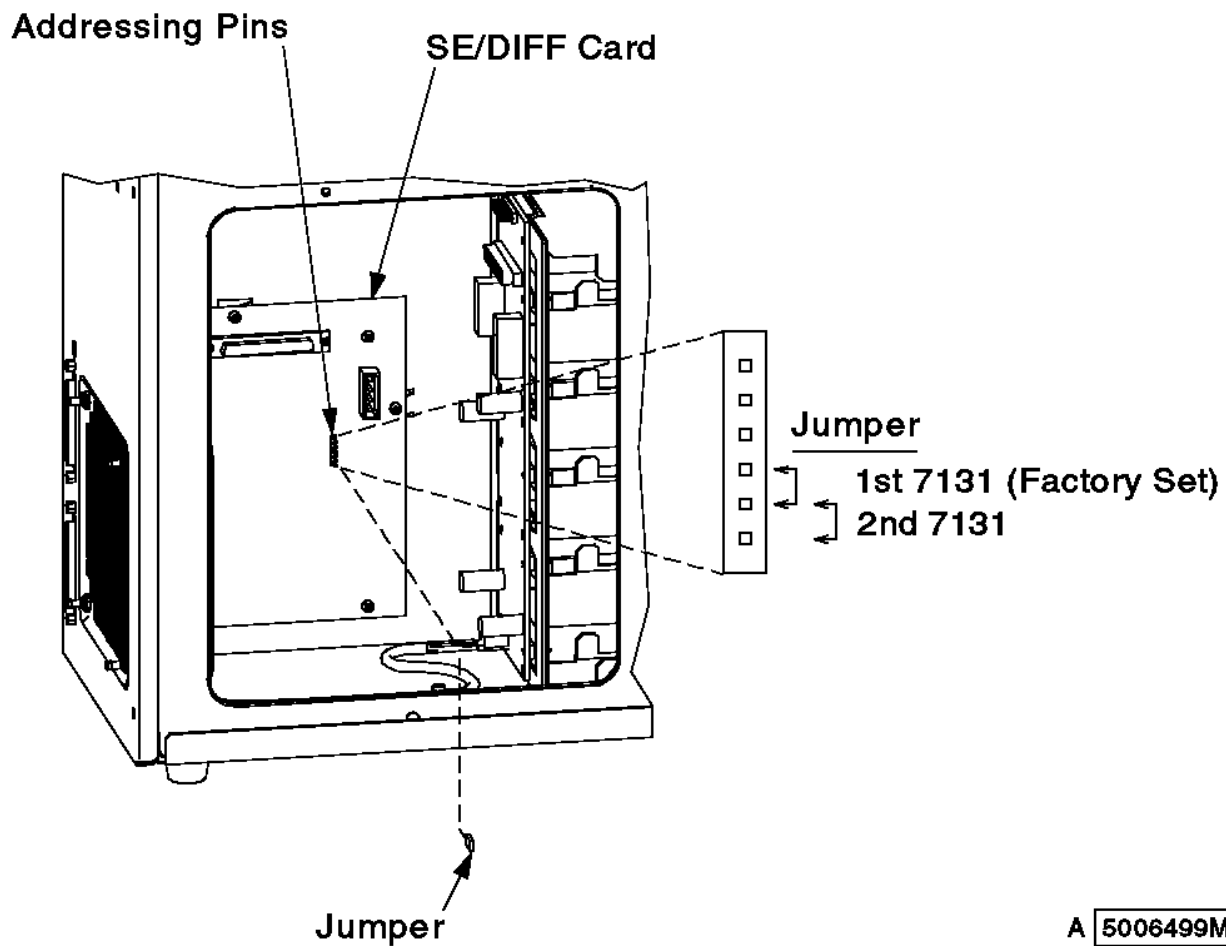

Figure 3-3. Setting the SCSI Address
6. Set the jumper on the SE/DIFF card (see Figure 3-3). This translates the addresses in the second 7131 Storage Tower attached to the system from 0 through 6 to 7 through 13.